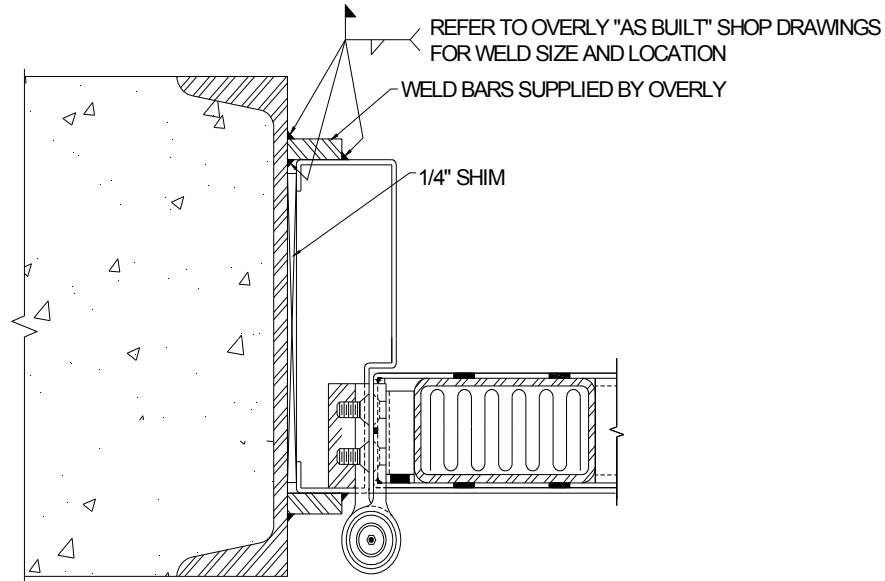

FIGURE 2 – TYPICAL FRAME SECTION @ HINGE SIDE
16. Initially, tack weld the head pieces of the frame weld bars to the steel sub-frame and the door frame. Next, do the same for the jamb pieces. Refer to Figures 2, and 3.